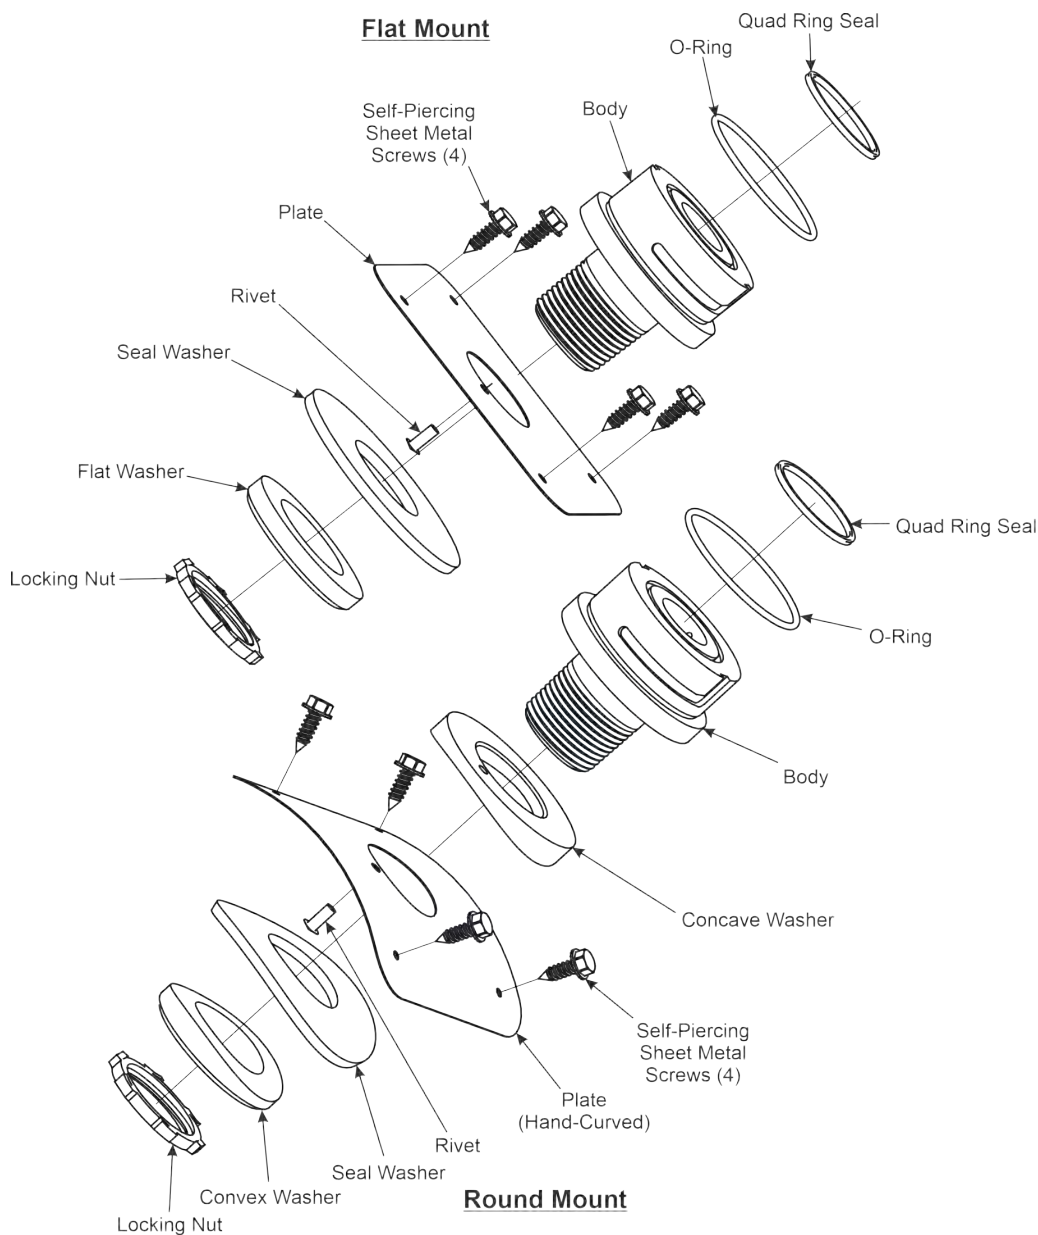

Figure 4-12: Meridian Duct Mount Fitting
1. Assemble the duct mount fitting properly for the particular duct application prior to tightening the locking nut. The locking nut digs into the washer for a lasting grip. Refer to Figure 4-12: Meridian Duct Mount Fitting for details.